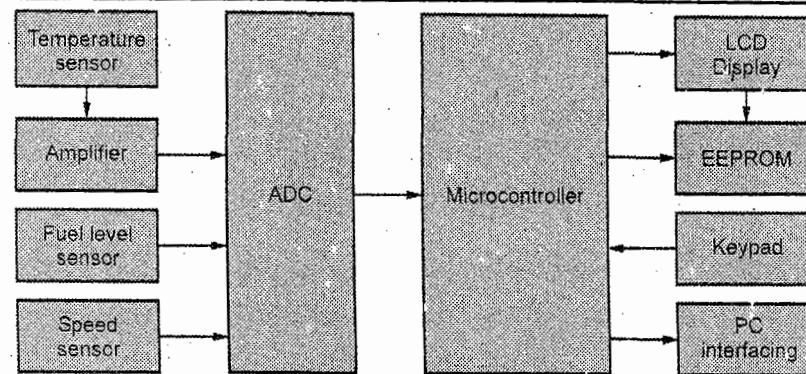
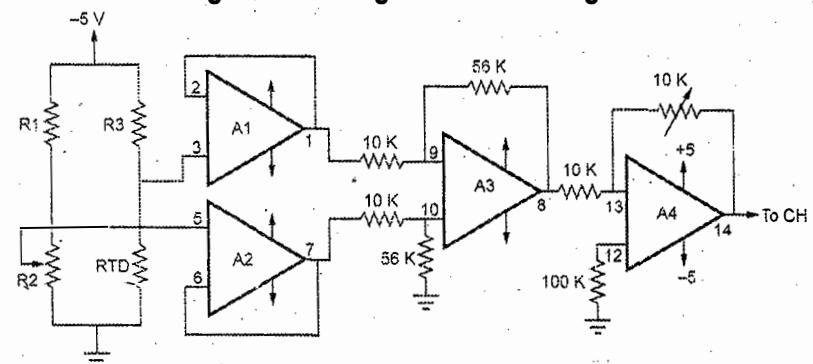

Fig. Q.14.2 The general block diagram
Fig. Q.14.3 Signal conditioning circuit
- The general block diagram of any security system without in built ADC is shown in Fig. Q.14.2 Some of the modern processor like PIC has the in-build ADC and require only signal conditioning circuit. The sample signal conditioning circuit is shown in Fig.Q.14.3 The signal conditioning circuit for any analog signal varies from signal to signal. For any low level signals an Instrumentation amplifier is best choice.